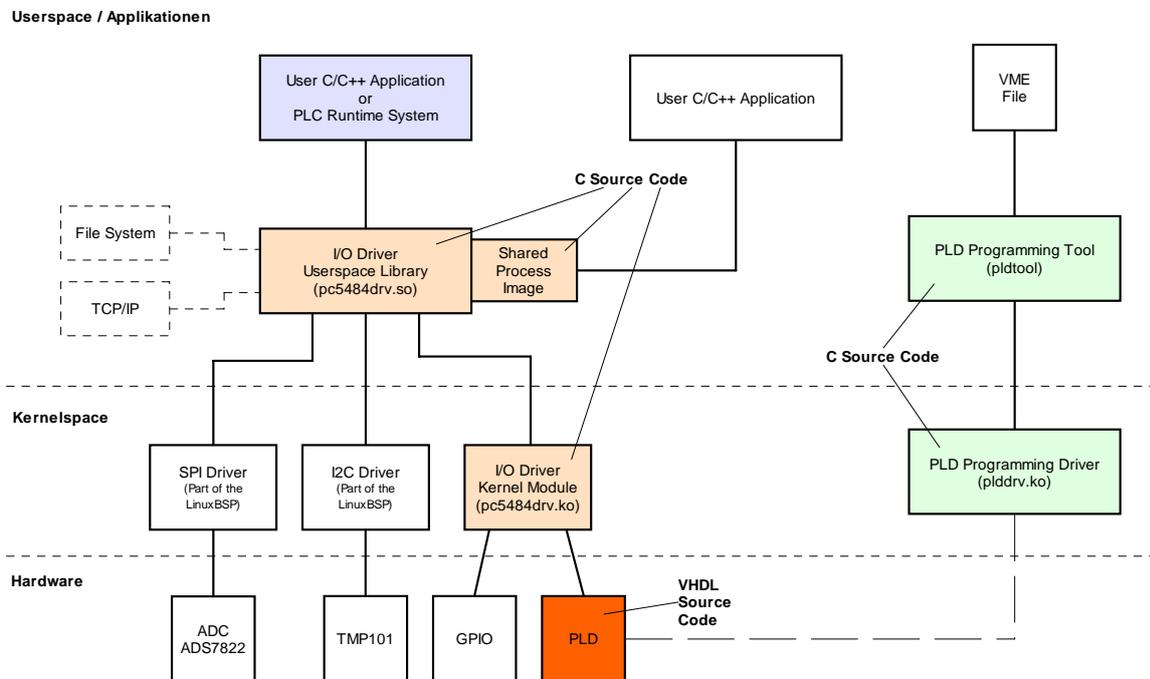

Figure 60: Overview of the Driver Development Kit for the ECUcore-5484
Figure 60 provides an overview of the DDK structure and its components. The DDK contains PLD resp. FPGA software sources (VHDL) as well as the source code of the Linux kernel driver (*pc5484drv.ko*) and the Linux user library (*pc5484drv.so*). Additionally, the DDK includes a PLD/FPGA Programming Tool (*pldtool* + *plddrv.ko*) which allows for a PLD/FPGA software update without extra JTAG hardware.
2. Source code for the Linux kernel driver (*pc5484drv.ko*, see Figure 60); includes all files necessary to regenerate kernel drivers (C and H files, Make file etc.)
3. Source code for the Linux user library (*pc5484drv.so*, see Figure 60); contains all files (incl. implementation of Shared Process Image) necessary to regenerate a user library (C and H files, Make file etc.)